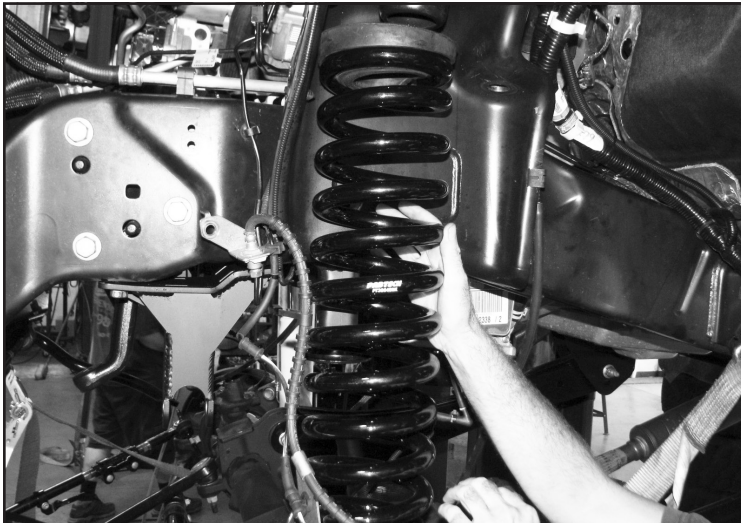

FIGURE 15 - STEP 20
20. Install FT30733 (Coil Spring) using the factory upper isolator. **SEE FIGURE 15**